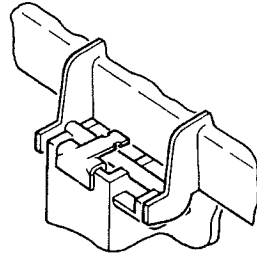

Figure 6
4. Push down on clip until fully seated against lid hinge. (See fig. 6)